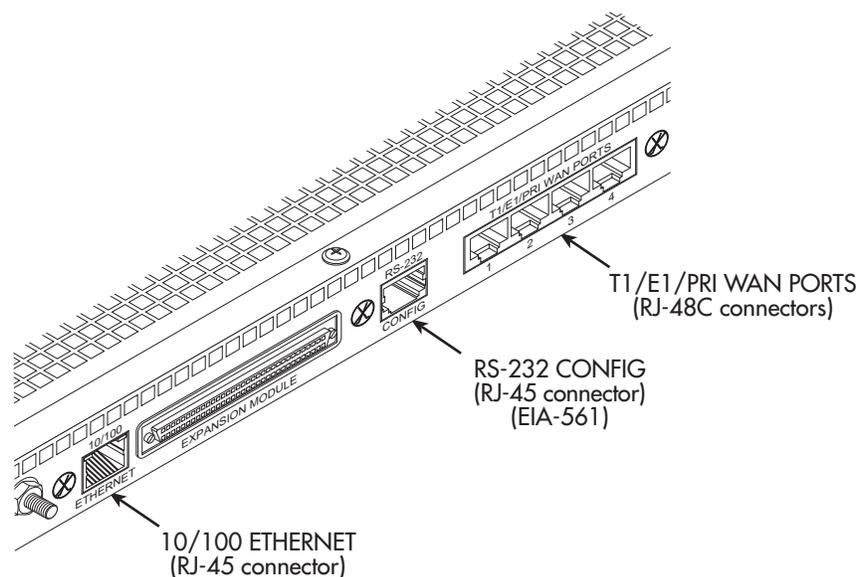
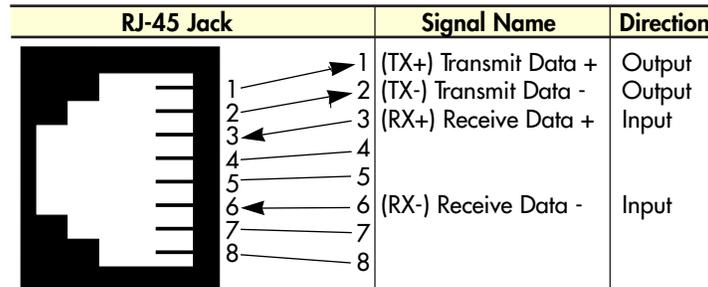
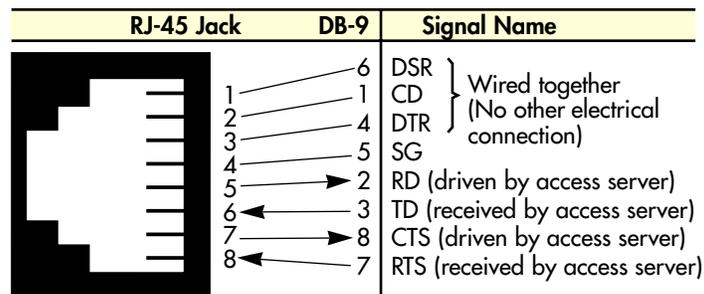

Figure 7. Model LRA2900A network and configuration ports
Figure 8. Straight-through RJ-45-to-RJ-45 Ethernet cable diagram
Figure 10. DB-9-to-RJ-45 cable diagram
The RAS has a single 10/100 Ethernet interface for connection to your LAN (see figure 7). The Ethernet port will autosense the correct speed of the local LAN and automatically negotiate half- or full-duplex operation. This section describes connecting the RAS to the Ethernet LAN via an Ethernet hub, switch, or workstation.
The 10/100Base-T Ethernet port (see figure 7 on page 25) is designed to connect to an Ethernet switch or hub. Connect a straight-through CAT-5 cable (one wired as shown in figure 8) between the RAS and the hub/switch.
Install the supplied DB-9-to-RJ-45 cable between the RAS RS-232 port (see figure 7 on page 25) and an open serial port on your computer. If you need to assemble your own cable, refer to the pinout diagram in figure 10.
1. If you have not done so already, install the supplied DB-9-to-RJ-45 cable between the RAS RS-232 port (see figure 7 on page 25) and an open serial port on your computer.